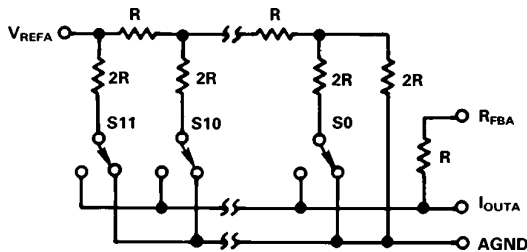
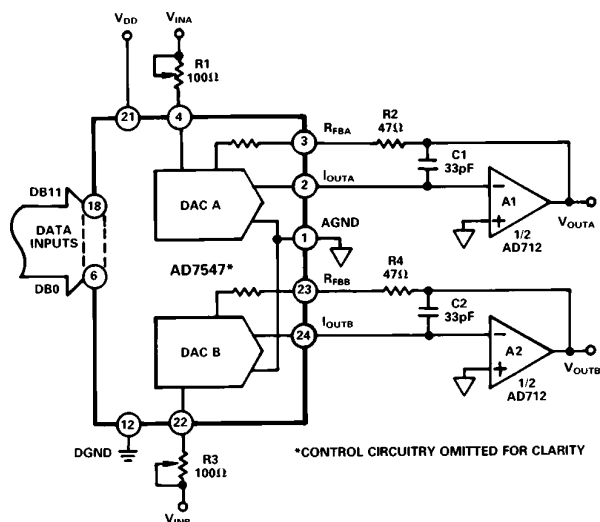
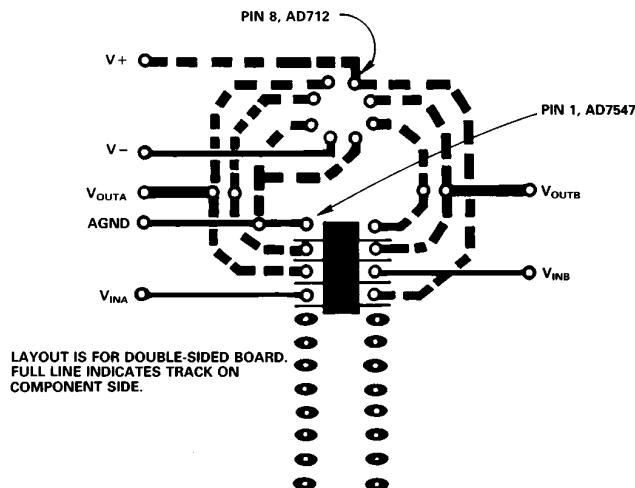

Figure 2. Simplified Circuit Diagram for DAC A
Figure 4. Unipolar Binary Operation
Figure 10. Suggested Layout for Circuit of Figure 4
The AD7547 contains two identical 12-bit multiplying D/A converters. Each DAC consists of a highly stable R-2R ladder and 12 N-channel current steering switches. Figure 2 shows a simplified D/A circuit for DAC A. In the R-2R ladder, binary weighted currents are steered between IOUTA and AGND. The current flowing in each ladder leg is constant, irrespective of switch state. The feedback resistor RFBA is used with an op amp (see Figures 4 and 5) to convert the current flowing in IOUTA to a voltage output.
Figure 4 shows the circuit diagram for unipolar binary operation. With an ac input, the circuit performs 2-quadrant multiplication. The code table for Figure 4 is given in Table II.
Table II. Unipolar Binary Code Table for Circuit of Figure 4
**Output Offset:** CMOS D/A converters in circuits such as Figures 4 and 5 exhibit a code dependent output resistance which in turn can cause a code dependent error voltage at the output of the amplifier. The maximum amplitude of this error, which adds to the D/A converter nonlinearity, depends on  $V_{OS}$ , where  $V_{OS}$  is the amplifier input offset voltage. To maintain specified operation, it is recommended that  $V_{OS}$  be no greater than  $(25 \times 10^{-6})(V_{REF})$  over the temperature range of operation. Suitable op amps are the AD711C and its dual version, the AD712C. These op amps have a wide bandwidth and high slew rate and are recommended for wide bandwidth ac applications. AD711/AD712 settling time to 0.01% is typically 1  $\mu\text{s}$ .
**Temperature Coefficients:** The gain temperature coefficient of the AD7547 has a maximum value of 5 ppm/ $^{\circ}\text{C}$  and typical value of 1 ppm/ $^{\circ}\text{C}$ . This corresponds to worst case gain shifts of 2 LSBs and 0.4 LSBs respectively over a 100 $^{\circ}\text{C}$  temperature range. When trim resistors R1(R3) and R2(R4) are used to adjust full-scale range as in Figure 4, the temperature coefficient of R1(R3) and R2(R4) should also be taken into account. For further information see "Gain Error and Gain Temperature Coefficient of CMOS Multiplying DACs", Application Note, Publication Number E630c-5-3/86 available from Analog Devices.
**High Frequency Considerations:** AD7547 output capacitance works in conjunction with the amplifier feedback resistance to add a pole to the open loop response. This can cause ringing or oscillation. Stability can be restored by adding a phase compensation capacitor in parallel with the feedback resistor. This is shown as C1 and C2 in Figures 4 and 5.
**Feedthrough:** The dynamic performance of the AD7547 depends upon the gain and phase stability of the output amplifier, together with the optimum choice of PC board layout and decoupling components. A suggested printed circuit layout for Figure 4 is shown in Figure 10 which minimizes feedthrough from  $V_{REFA}$ ,  $V_{REFB}$  to the output in multiplying applications.